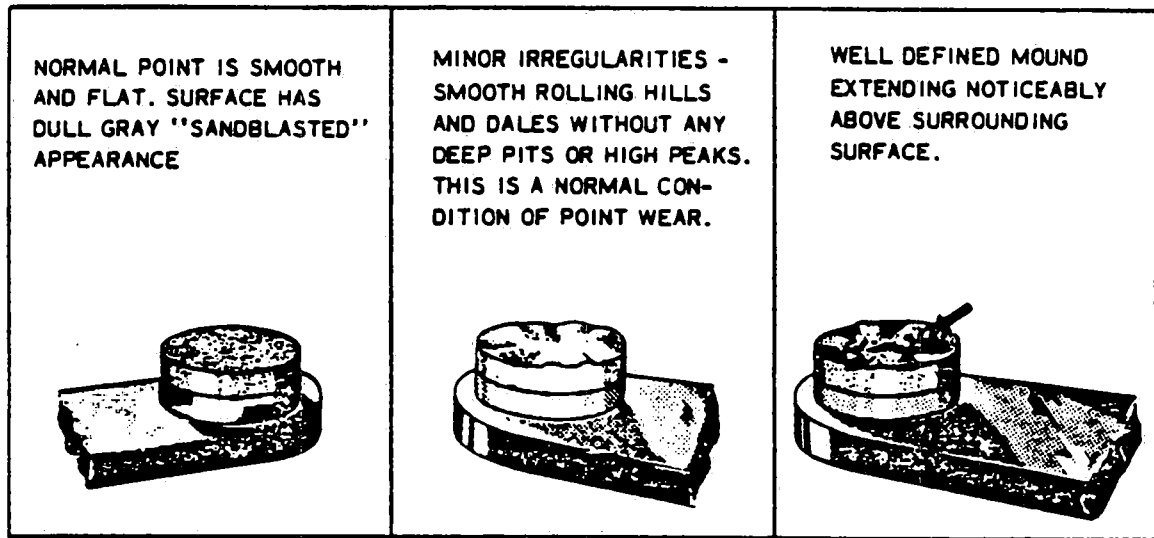

Figure 8A-10. Magneto Breaker Points
- a. Inspect distributor block contact springs. Top of spring must not be more than 0.422 of an inch below top of tower as shown in Figure 8A-11. If broken or corroded, they should be replaced.